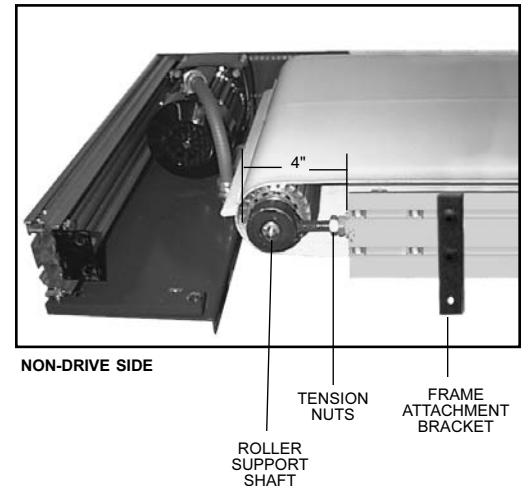

Figure 2
- 15) Remove plate on non-drive side (see **Figure 2**). **DO NOT REMOVE THE FRAME ATTACHMENT BRACKET!**